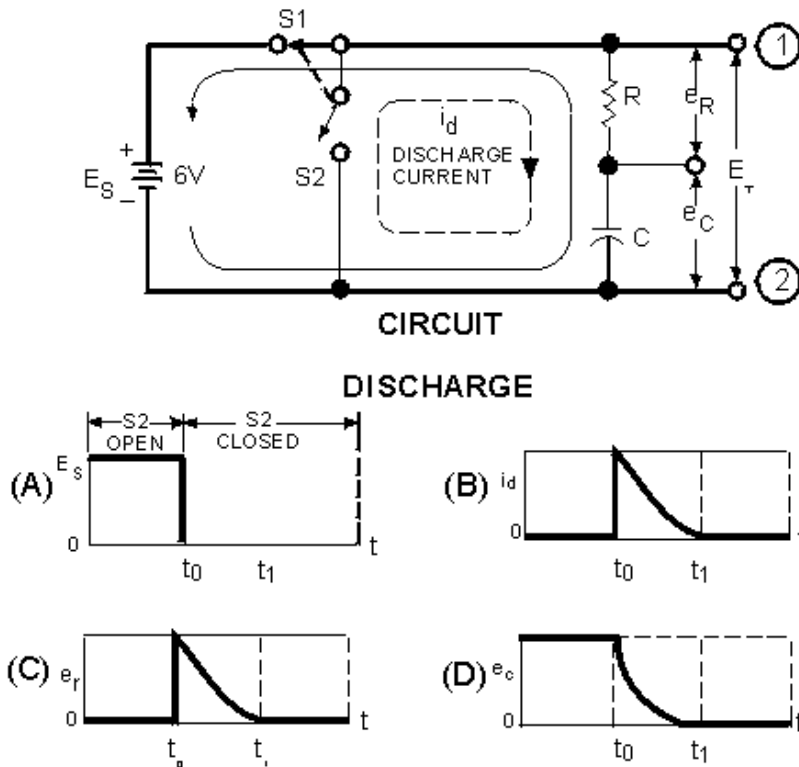

Figure 3-10.—Discharge of an RC Series circuit.
In figure 3-10 at time  $t_0$ , the capacitor is fully charged. When S1 is open and S2 closes, the capacitor discharge cycle starts. At the first instant, circuit voltage attempts to go from source potential (6 volts) to zero volts, as shown in graph (A). Remember, though, the capacitor during the charge cycle has stored energy in an electrostatic field.
By comparing graph (A) with graph (D) of figure 3-10, you can see the effect that capacitance has on a change in voltage. If the circuit had not contained a capacitor, the voltage would have ceased at the instant S1 was opened at time  $t_0$ . Because the capacitor is in the circuit, voltage is applied to the circuit until the capacitor has discharged completely at  $t_1$ . The effect of capacitance has been to oppose this change in voltage.